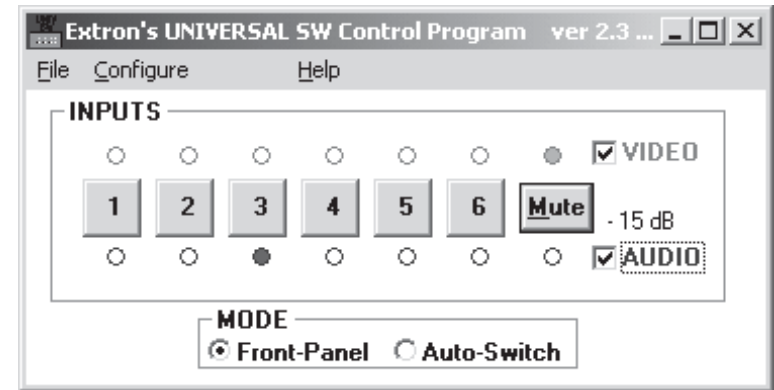

Figure 4-2 — Universal Switcher program window
3. The Extron Universal Switcher Control Program window (Figure 4-2) displays the selected input, the audio gain for the selected input, and the panel mode.